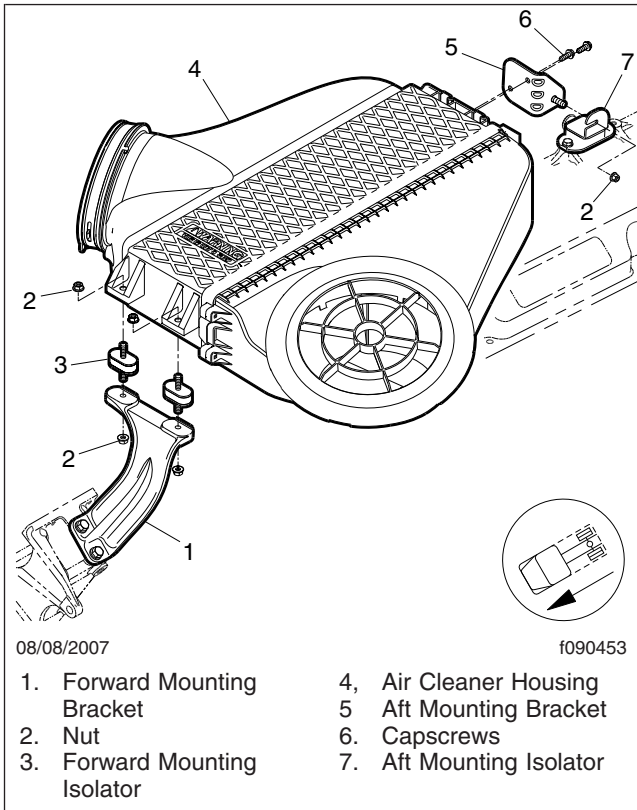
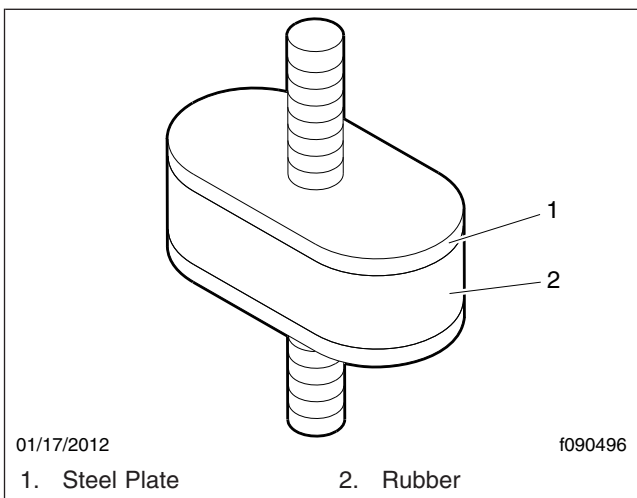

Fig. 3, Air Cleaner Assembly
Fig. 4, Mounting Isolator
4. Inspect the forward and rear mounting isolators for damage. See **Fig. 3**. Ensure the bonds between the rubber and the steel plates are completely intact. See **Fig. 4**.